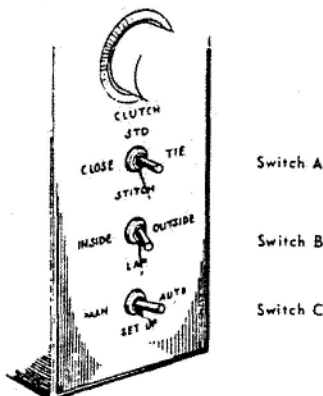

Figure 12 - Switches
1. Position Switch "A" for STD, TIE, or CLOSE stitching as desired. See Figure 12.